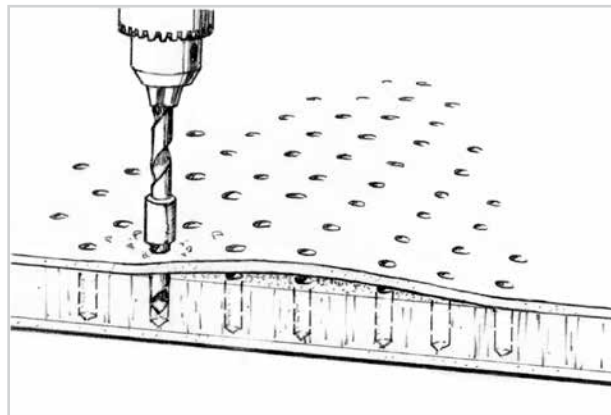

Figure 5-2 Drill a pattern of holes, 1" (25 mm) apart over the area of delamination, to allow the core material to dry out.
1. Drill $\frac{3}{16}$ "– $\frac{7}{32}$ " (5 mm)-diameter holes at 1" (2.5 cm) intervals, creating a pegboard-like pattern that extends several inches beyond the delaminated area (Figure 5-2). The holes should penetrate the fiberglass skin and the core without drilling into the opposite skin. Use a drill depth control device to prevent drilling entirely through the panel.